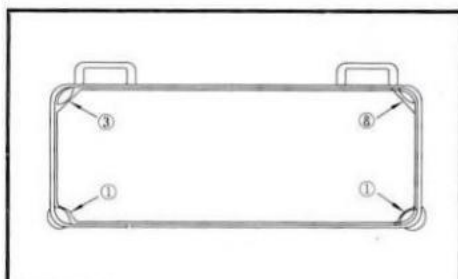
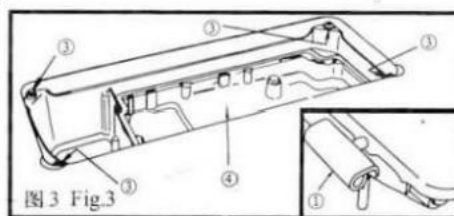
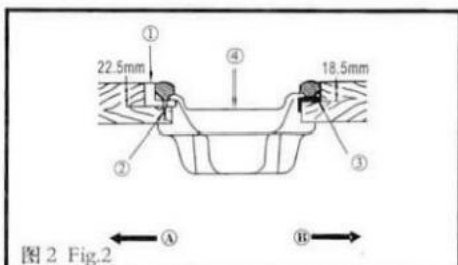
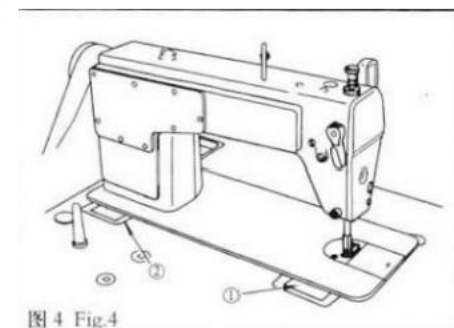

图1 Fig.1
图3 Fig.3
图2 Fig.2
图4 Fig.4
1. 机器的安装(图1、图2、图3、图4)
1.INSTALLATION (Fig.1, Fig.2, Fig.3, Fig.4)
- 2) 如图所示, 将两只油盘支座①用油盘座钉②固定在A一边(朝操作者一边), 将两只油盘座垫③用油盘座钉②固定在B一边(用机头连接钩接合一边), 最后把油盘④放在其上。(图1、图2)
- 3) 将机头连接钩①放入底板孔内, 与台板的机头连接钩座②相嵌合, 再将机头放到四只角的机头座垫③上。(图3、图4)
- 2) Fix two rubber seats ① on side A (operator's side) using nails ② as illustrated above. Fix two cushion seats ③ on side B (hinged side) using nails ②. Then place oil pan ④ on the fixed seats. (Fig.1, Fig.2)
- 3) Fit hinge ① into the opening in the machine bed, and fit the machine head to table rubber hinge ② before placing the machine head on cushions ③ on the four corners. (Fig.3, Fig.4)